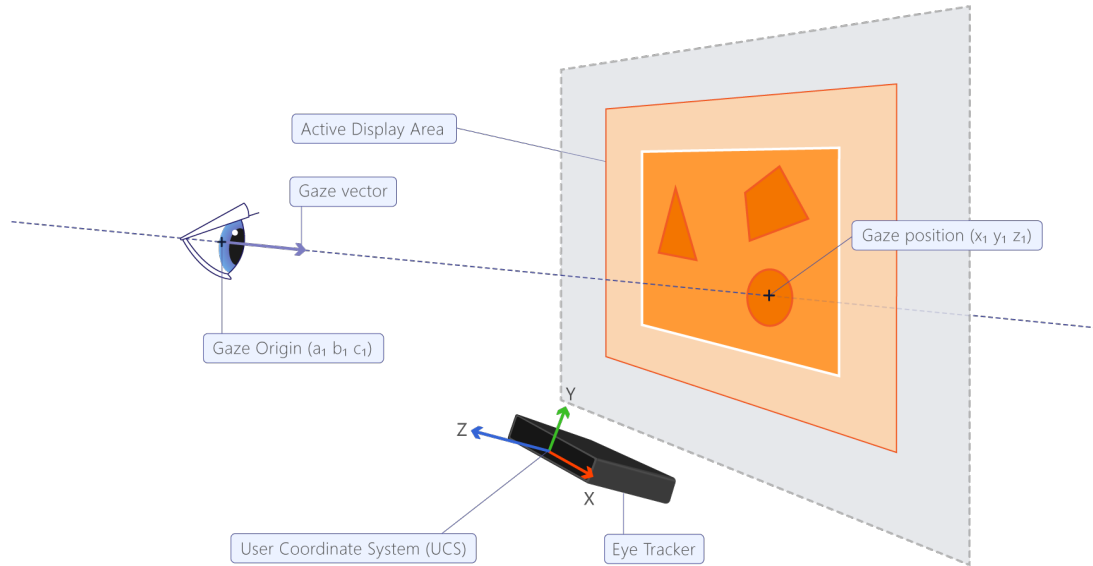

Figure 4.2: The User Coordinate System (UCS). Figure source: Tobii
When using **Tobii Pro SDK**, much more values are provided and can be logged to the output file. This includes the pupil diameters of each eye as well as the eye positions in space. The latter uses a coordinate system which is called *User Coordinate System (UCS)*. The UCS is illustrated in Figure 4.2.
4. 3D gaze point UCS coordinates (see Figure 4.2) in millimeters
5. gaze origin UCS coordinates (see Figure 4.2) in millimetres